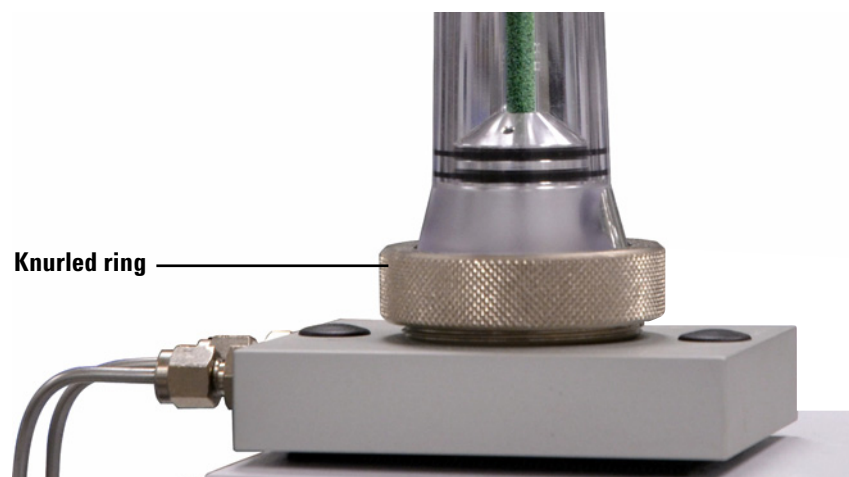

Figure 23 Tighten the knurled ring to secure the filter to the connecting unit
- 5 Tighten the knurled ring while gently pressing down on the filter. Let the knurled ring pull the filter onto the connecting unit as it is tightened (Figure 23).